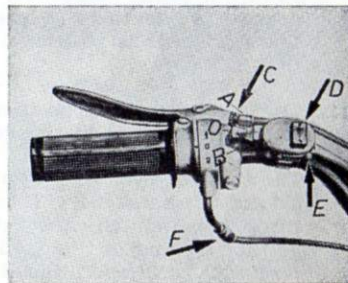

Fig. 6
The A position will switch the light beam to LOW and the B position switch the beam to HIGH. Fig. 6
The horn is sounded by pressing button D Fig 6 Pressing the button E, Fig. 6 when engine is running these stop because there is not ignition.
4.2 1 — After starting engine as explained in 3.1 5 first gear can be engaged by pulling in the clutch lever on the left hand side of the handlebar, turn the gear lever to position 1, Fig. 6
Gently release the clutch lever at the same time fractionally turning the throttle twist grip. To change up a gear close the twist grip, pull in the clutch lever, turn the gear lever to position 2. Fig. 6